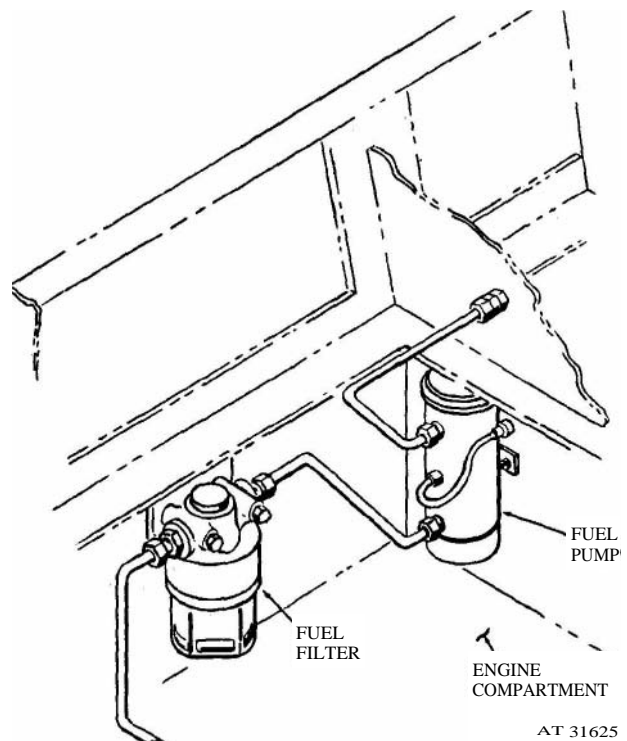

Figure 1-7. M792 ambulance, heater fuel pump and filter
(1) A 24 volt fuel pump (fig 1-7) is mounted on a bulkhead within the engine compartment and delivers fuel to the heater at a rate of 25 gallons per hour at 2 psi.
(2) The fuel is routed from the tee coupling in the crossover line between the fuel tanks to a fuel filter assembly (fig 1-7) mounted adjacent to the fuel pump. The filter serves to clean the input fuel prior to entering the pump and is a bowl type with a cleanable or replaceable filter element.